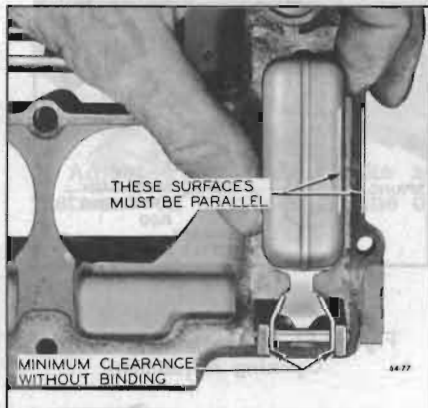

Figure 64-58—Float Alignment
9. Align Float - Sight down side of float to determine if side is parallel with outer edge of air horn. If adjustment is necessary, bend float lever by applying pressure to end of float with fingers while supporting float lever with thumb. See Figure 64-58.